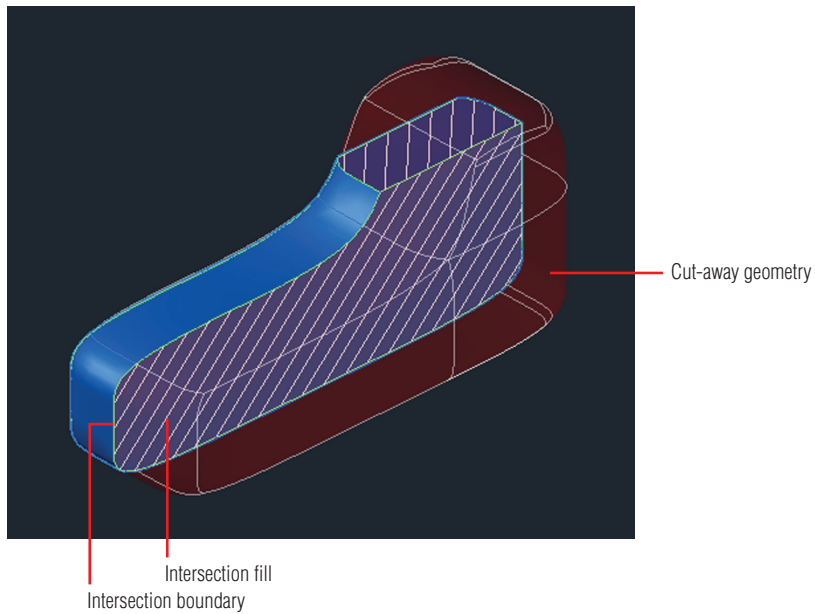

FIGURE 17.36 Changing the appearance of a live section
6. Select the section object, type **SECTIONPLANESETTINGS**, and press Enter. Change the color under Intersection Boundary to Green. Under Intersection Fill, change Face Hatch to Predefined/ANSI31 and change Hatch Scale to 6. Scroll down; under Cut-Away Geometry, change Show to Yes, Color to Red, and Face Transparency to 80. The result shows the intersection boundary as a thin green line, the intersection fill with a cross-hatch pattern, and the cutaway geometry in transparent red (see Figure 17.36). Click OK.